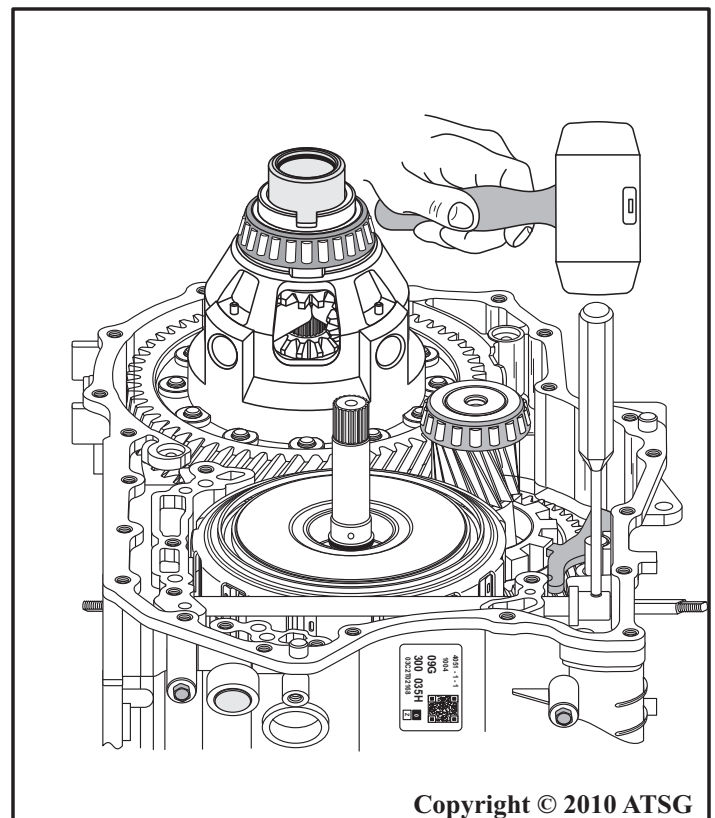

Figure 189
54. Align the holes in the inside detent lever and the manual shaft and install the rolled pin using a hammer and punch, as shown in Figure 189.